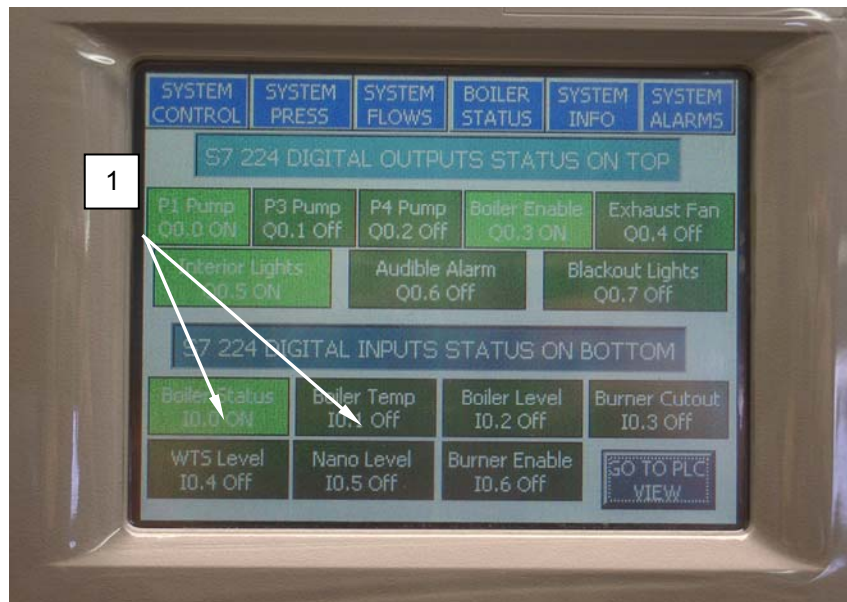

Figure 1. Test the Level Sensors.
2. Locate the WTS and Nano level readings (**Figure 1, Item 1**) - there should be an ON or OFF value after "IO".